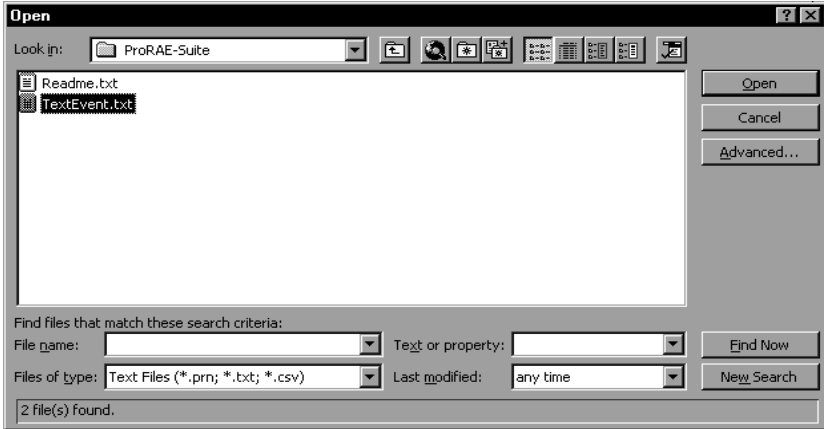

Figure C-2 **Open** Dialog Box
- Click **File->Open** menu item to open the **Open** dialog box, select the folder where the file TextEvent.txt is resided, and select the **Files of type** as Text Files. Click to select the file TextEvent.txt, as shown in Figure C-2.